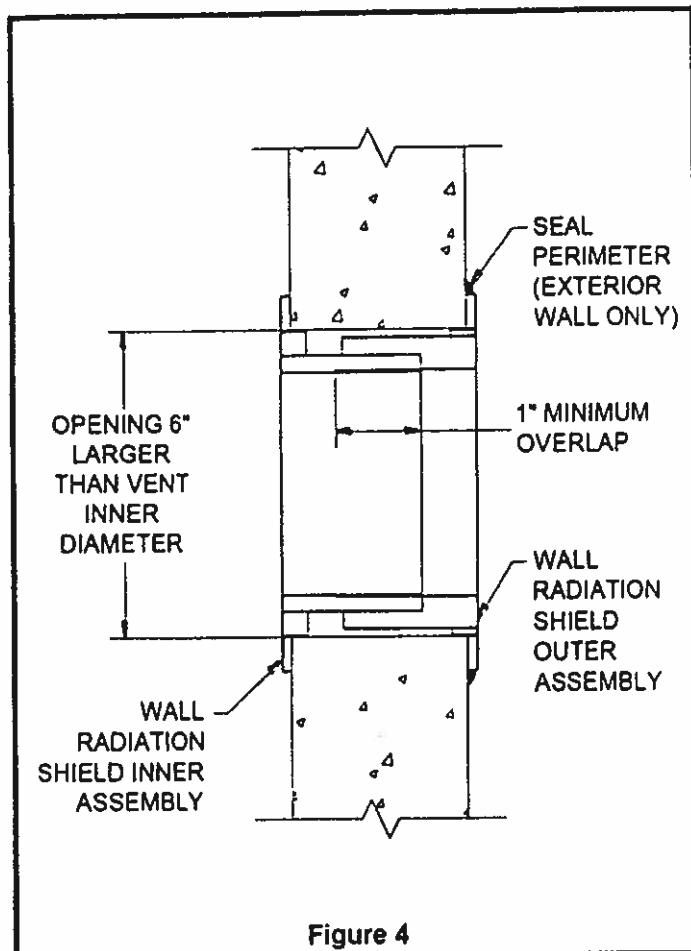

Figure 4
3. Install both parts of the Wall Radiation Shield and screw (or nail) them to the frame (see Figure 4). Seal the Wall Radiation Shield perimeter to the exterior wall with caulking to prevent water infiltration.